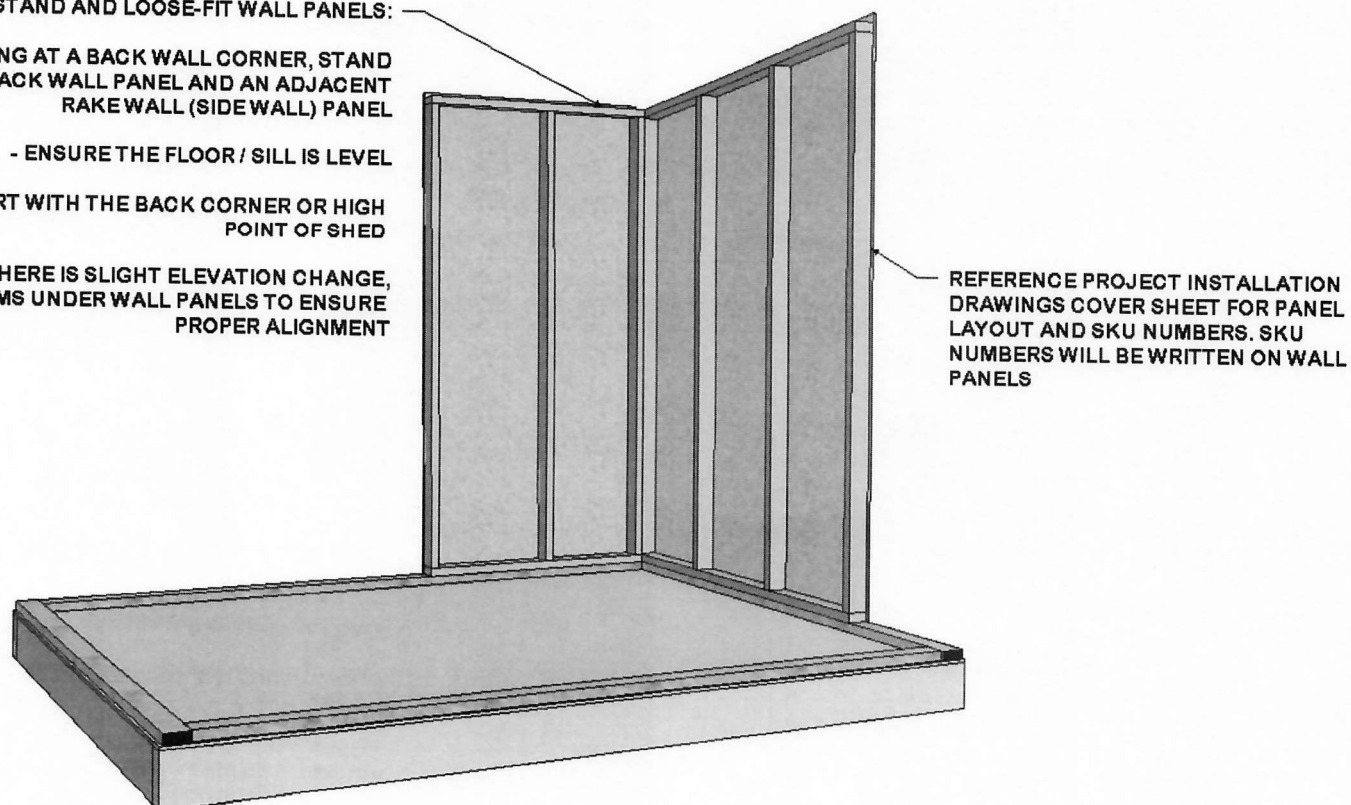

Fig 6a:
MAKE ANY NECESSARY ADJUSTMENTS ENSURING PANELS ARE PLUMB AND FLUSH (FIG 6a + b) THEN INSTALL AN ADDITIONAL 3" WOOD SCREW IN THE MIDDLE OF THE WALL PANEL INTO THE ADJACENT WALL PANEL
- USE METHODS DESCRIBED IN FIG 6a-7a
- START WITH THE FRONT-LEFT PANEL AND INSTALL USING METHODS DESCRIBED IN FIG 6a-7a
- WORK FROM LEFT TO RIGHT USING METHODS DESCRIBED IN FIG 6a-8a